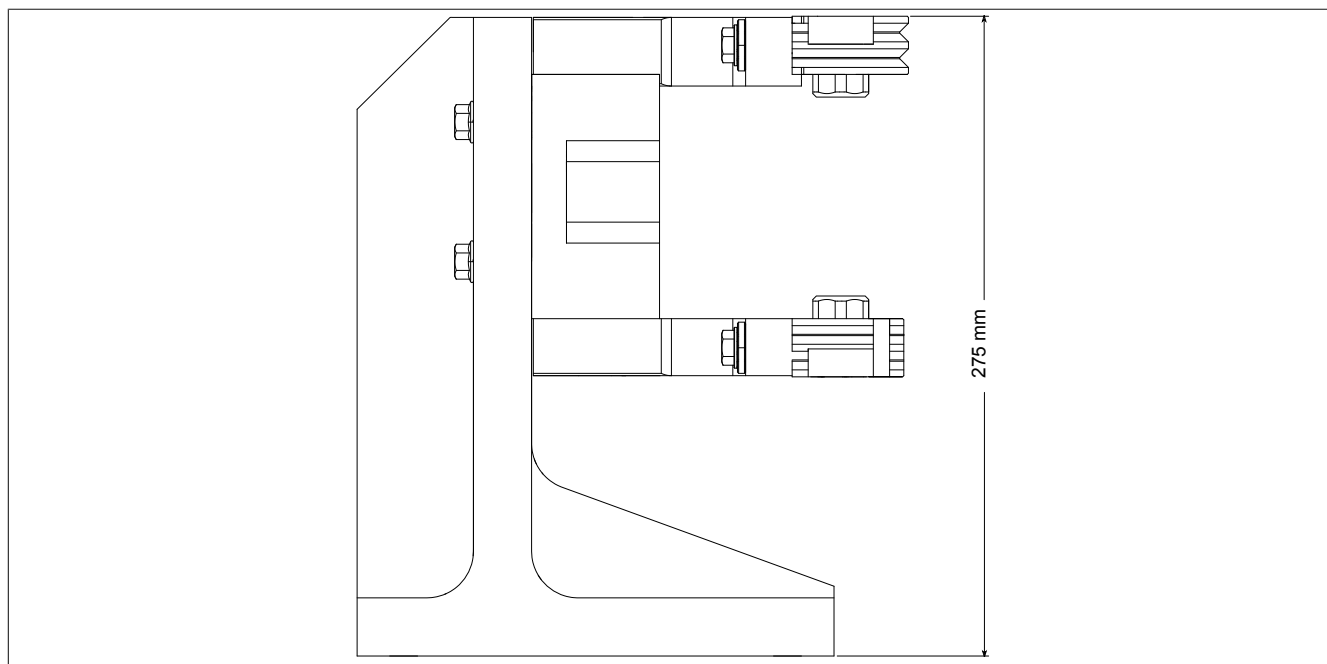

Figure 85: Height adjustment dimension
3. Adjust the height using the push-pull screw (c) to the specified dimension ( $275 \pm 0.1$  mm, Fig. 85 "Height adjustment dimension" on page 224, measure at the marked area).